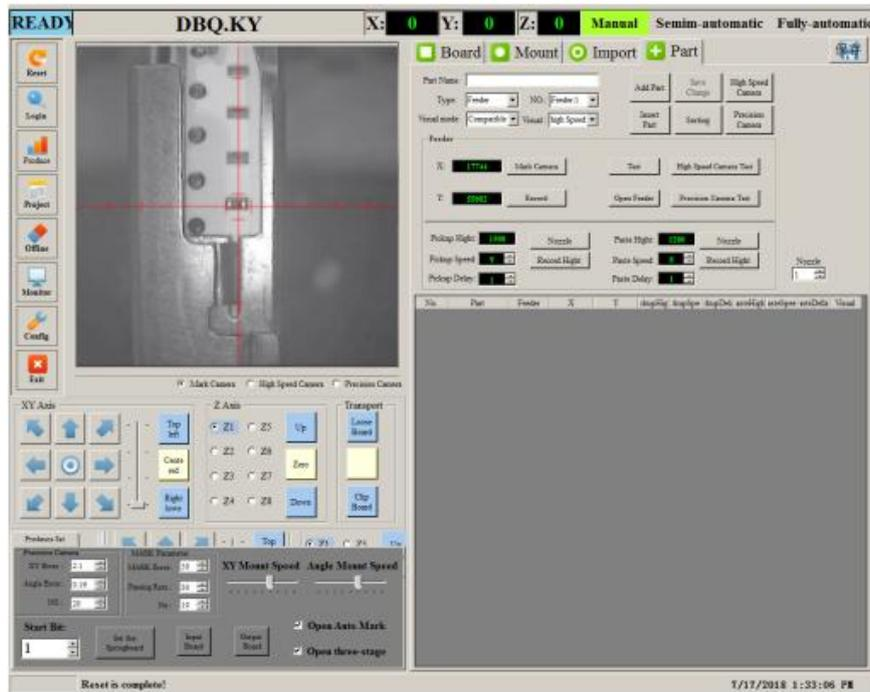

Figure 5-6-3
③ Click the "Open Feeder", move XY coordinates, make the red cross scale aiming to the first material from feeder, click "record coordinate". At this point, all the coordinates record of 1#-8# suction nozzle corresponding to this feeder has been saved. Shown as Figure 5-6-3: